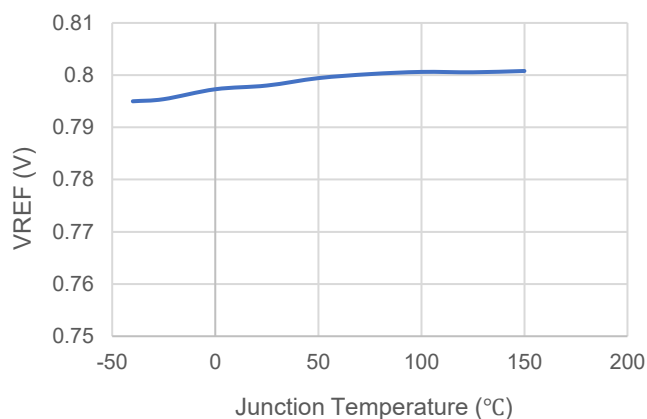

Figure 9 VREF Vs. Temperature
The GBI1630/1631 output voltage can be easily set up using a resistor divider network R1 and R2 as shown in the typical application circuit Figure 9. Use Equation (6) to calculate the resistor divider values.